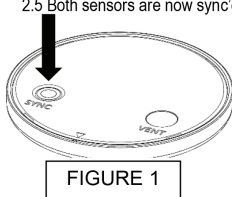

FIGURE 1
- 1.3 **See Fig 1**--Press and hold SYNC button until sensor appears on app (up to 10 seconds).
- 2.3 **See Fig 1**--Press and hold SYNC button until sensor (up to 10 seconds) until the display lights stop flashing. The sensor is now synced with the display.